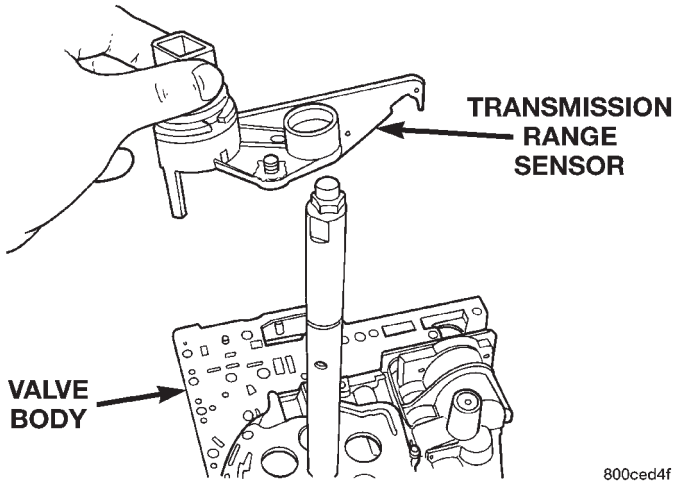

Fig. 30 Remove Transmission Range Sensor
- (14) Slide Transmission Range Sensor up the manual shaft and remove (Fig. 30).